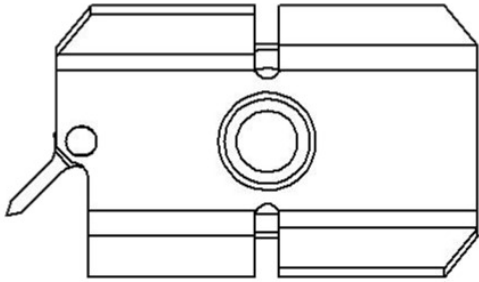
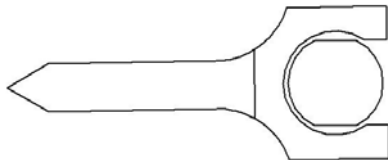

Fig. 14
Fig. 15
- f. Install the scraper blade onto the dasher assembly by holding the blade perpendicular to the tabs (Fig. 14) and then snapping them over the flat area of the support rod. Then rotate the blade downward in a counterclockwise direction as viewed from the front of the dasher (Fig. 15). **BE CERTAIN THAT THE SCRAPER BLADE REST UPON THE DASHER TABS.**